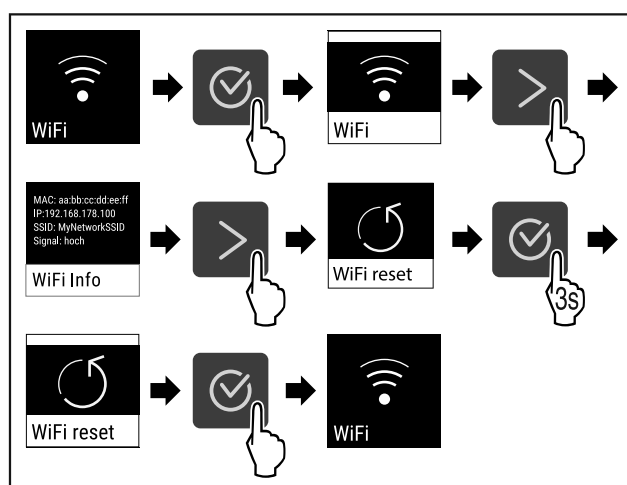

Fig. 78
- Complete the steps (see Fig. 78).